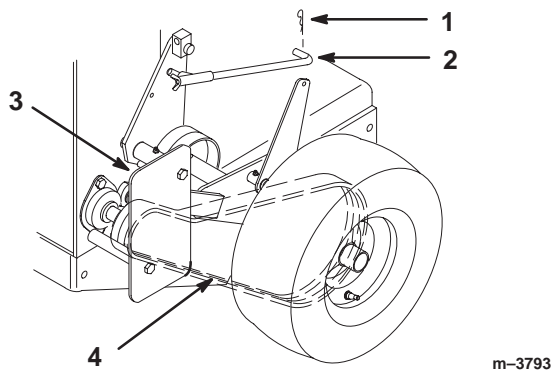

Figure 49
1. Remove hairpin cotter securing brake rod to brake arm to relax belt idler tension (Fig. 49).
2. Remove bottom and loosen top bolts of shield to rotate for belt clearance (Fig. 49).
3. Lift belt past idler and off drive pulley (Fig. 49).
6. Secure shield with previously removed bolt and tighten bolts (Fig. 49).
7. Secure brake rod to brake arm with hairpin cotter (Fig. 49).